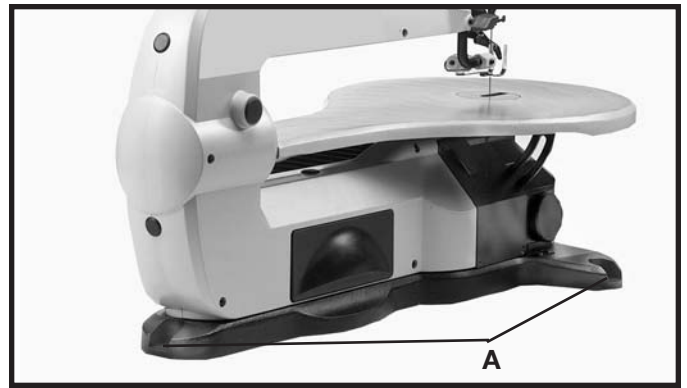

Fig. 4
This scroll saw **MUST** be securely fastened to a stand or workbench using the three holes, two of which are shown at (A) Fig. 4. The third hole is at the rear of the machine.